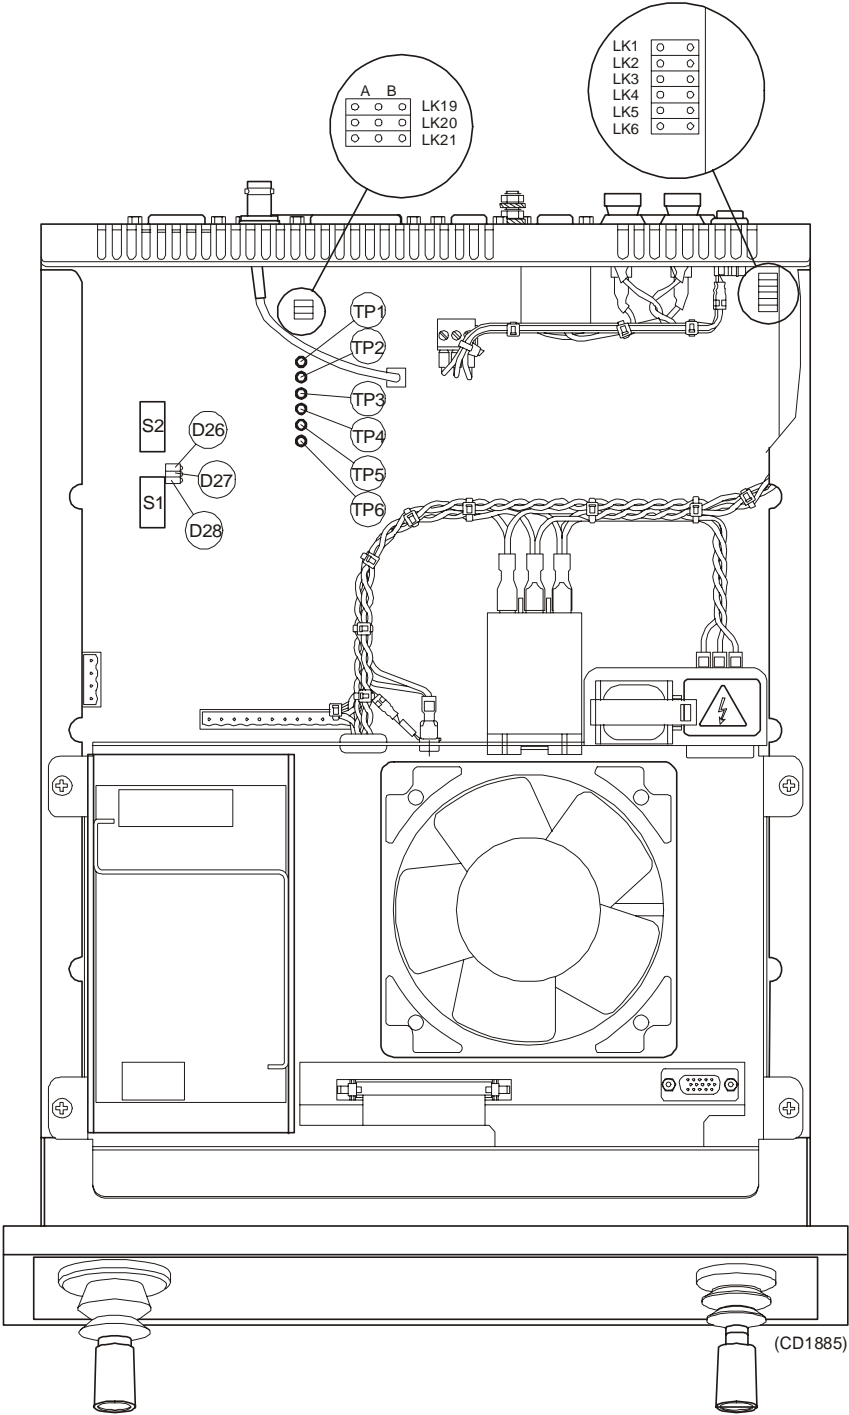

Figure 20 The electronic drawer unit
- ☐ **5** Locate the DIL switch S2 (refer to figure 20), and set the switches according to table on next page.
- ☐ **5** Locate the DIL switch S2 (refer to figure 20), and set the switches according to the table below.
- ☐ **6** If the output voltage is only half-wave rectified, refer to figure 20, and set the links LK19 LK20 and LK21 to position A.
- ☐ **7** Locate the DIL switch S2 (refer to figure 20), and set the switches according to the following table.
- ☐ **8** Locate the links LK2, LK3 and LK6 on the Control Unit Board, (see figure 20) and set the links according to the table below.